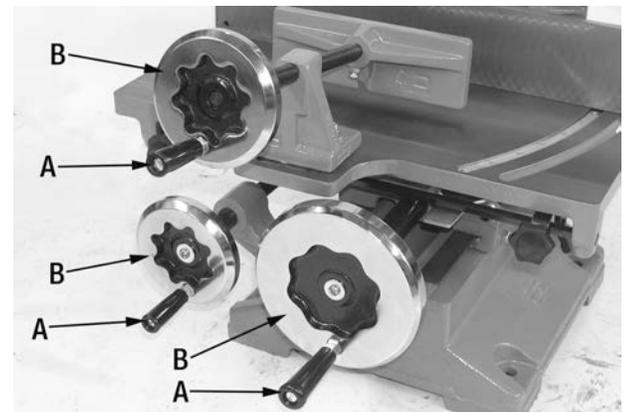

FIGURE 4
2. Install the handles (A) Fig.4 to the 3 handwheels (B) on the front of the machine.